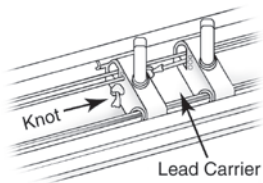
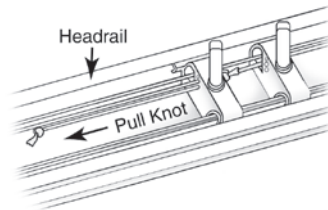
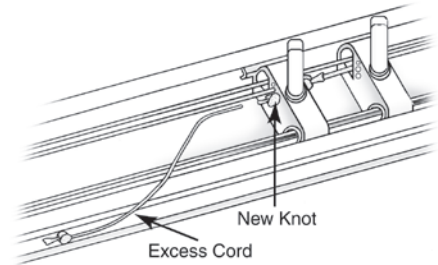

Figure 1
Figure 2
Figure 3
5. Tie new knot in cord and cut off excess. To adjust cord height on a one way draw blind, locate knot on end of cord in lead carrier (Fig. 1). Pull knot until cord loop reaches desired position (Fig. 2). Tie new knot in cord and cut off excess (Fig. 3).